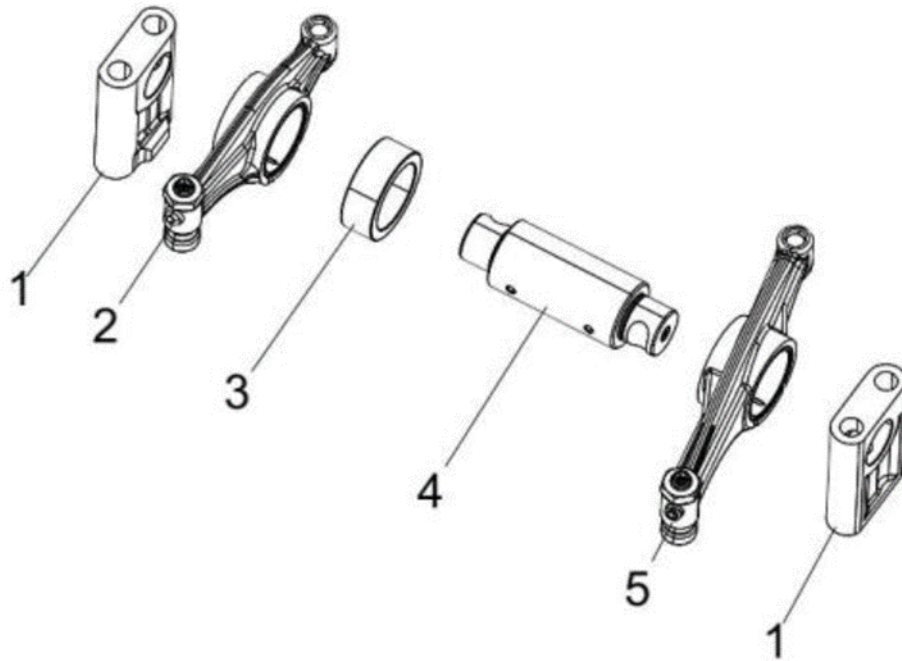

Figure 58. Rocker Arm Assembly
5. Remove the rocker arm support (Figure 58, item 1).
6. Slide the exhaust rocker arm assembly (Figure 58, item 2) out of the rocker arm shaft assembly (Figure 58, item 4), rocker arm shaft sleeve (Figure 58, item 3), and intake rocker arms assembly (Figure 58, item 5).